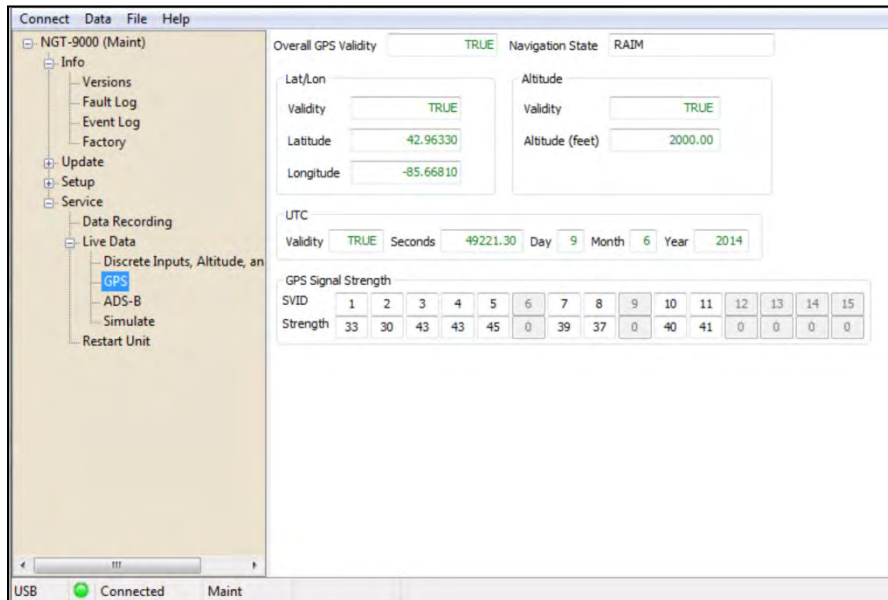

Figure 3-16: Lynx MAT – Live Data - GPS
1. From the Lynx MAT select Service→Live Data→GPS. An example of this page is shown in Figure 3-16.